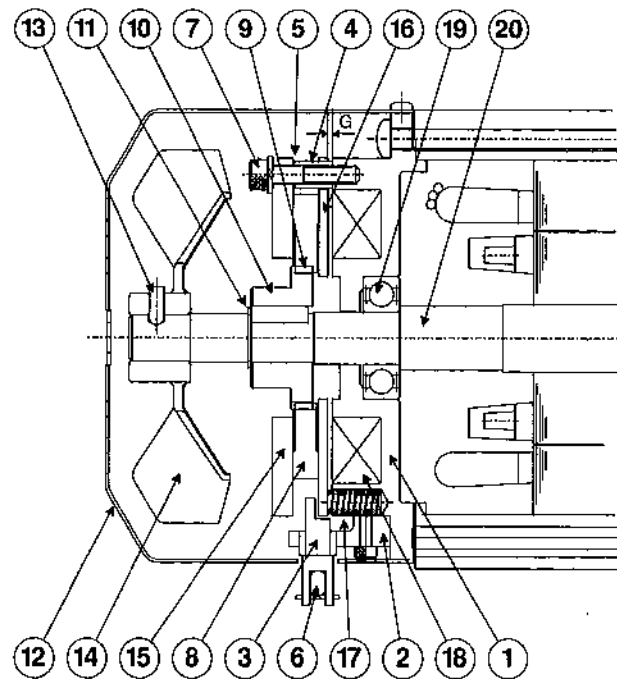

Fig. 6 FB-1B, -2B, -3B Mode
Fig. 6 illustrates the construction of the brake. The restraining bolt (7) fastens the brake shoe (15), gap adjusting sleeves (5) and spacer (4) onto the stationary core (1). The armature plate (16) is kept from rotation by the restraining bolt (7), but moves axially by electromagnetic attraction and the tension of the pressure spring (17). The brake lining (8) is fitted to the hub (10), which is secured to the motor shaft with a key. The solenoid coil (18) is energized via a rectifier provided within the terminal box.
The brake lining will wear after the unit has been used for a long period of time. It is necessary to check the brake for gap G from time to time (Fig. 6). Should gap G become too large, the solenoid coil may fail to pull in the armature plate and hence cannot release the brake, resulting in the unit remaining in a continuously braked condition.